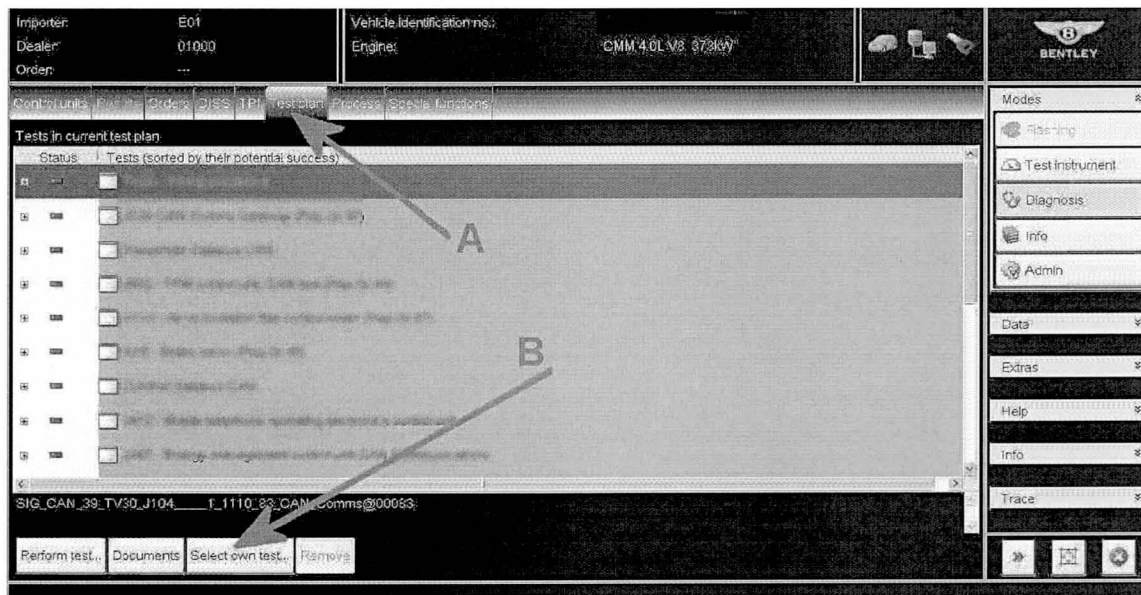
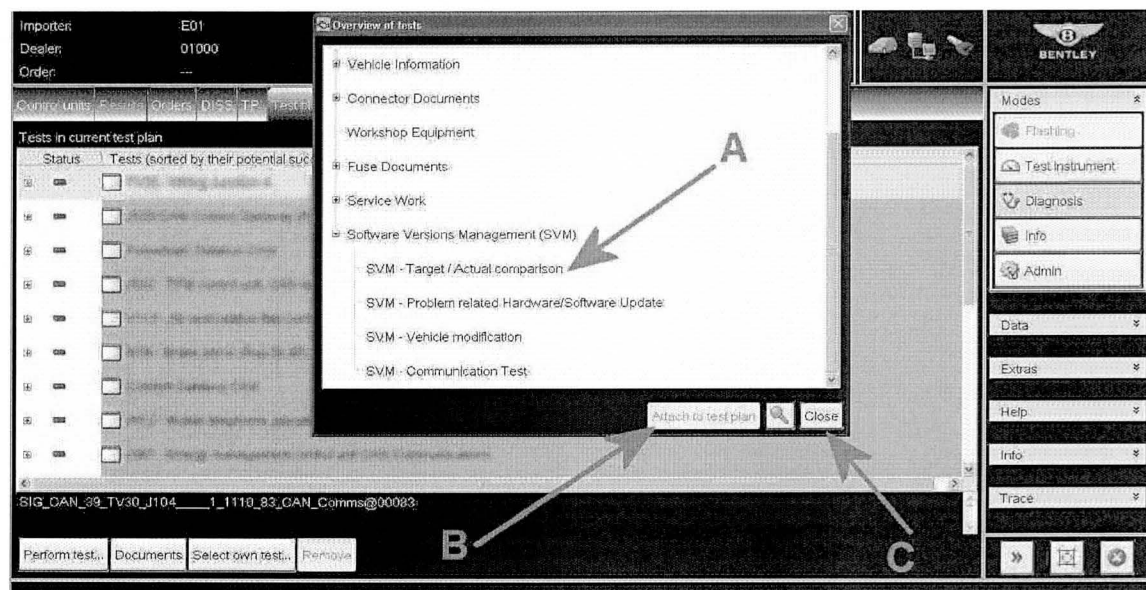

Figure 12
Figure 13
You will be automatically be redirected to the Test plan screen as shown in Figure 12 Point A
4. Referring to Figure 12, Select own test as shown in Figure 12 point B, (the overview of tests screen will now appear as shown in Figure 13)
- Referring to Figure 13 Select and highlight SVM - Target/Actual Comparison (Figure 13 Point A)